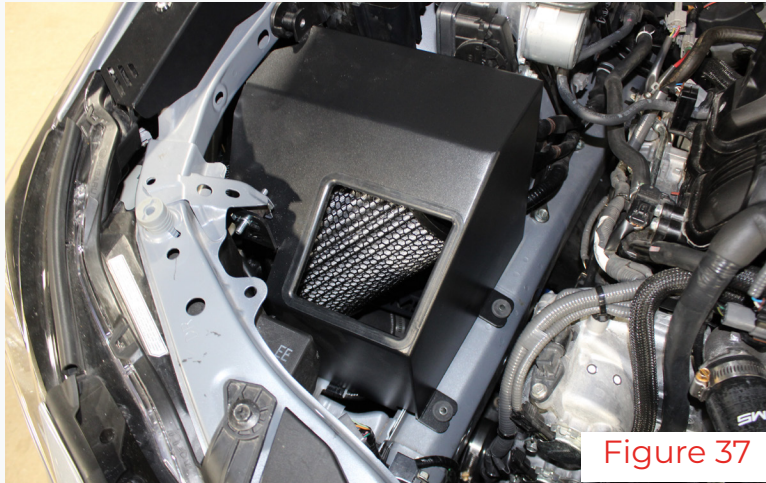

Figure 37
5. Place the shroud into position making sure the wire harness on the backside routes through the cutout in the back of the box (Figure 37 & 38).